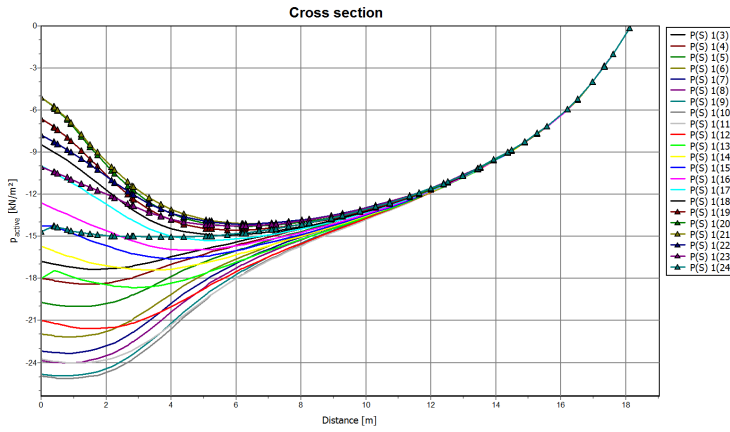
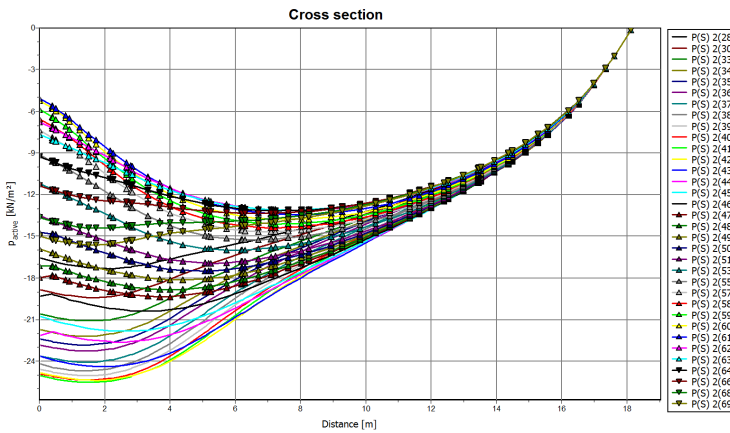

Figure 9.11 Active pore pressure variation in the cross section in Phase 1
Figure 9.12 Active pore pressure variation in the cross section in Phase 2
- The variation of the results due to different time intervals in harmonic variation at a specific cross section can be compared (Figure 9.11 and Figure 9.12).